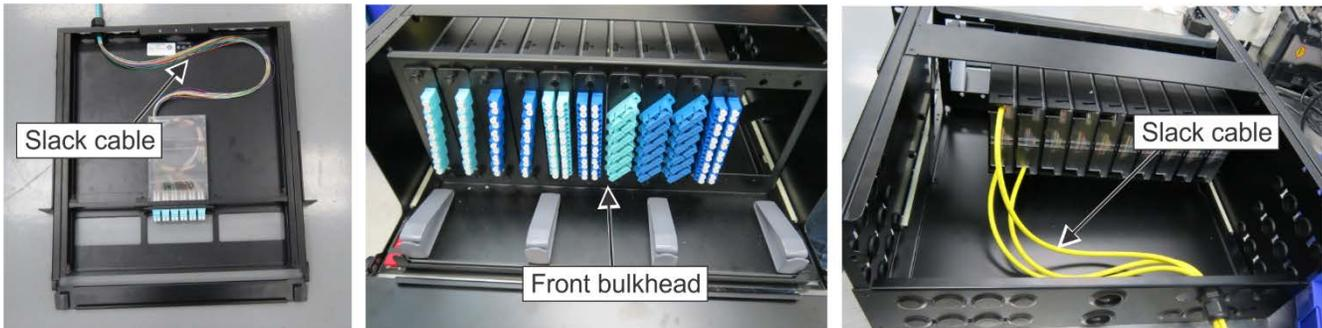

Figure 10. Install Cassette in Shelf
1. Insert cassette in the shelf bulkhead opening while pulling slack incoming cable back through same opening in bulkhead (Figure 10). Push in on captive rivets on cassette to secure it in opening once inserted.